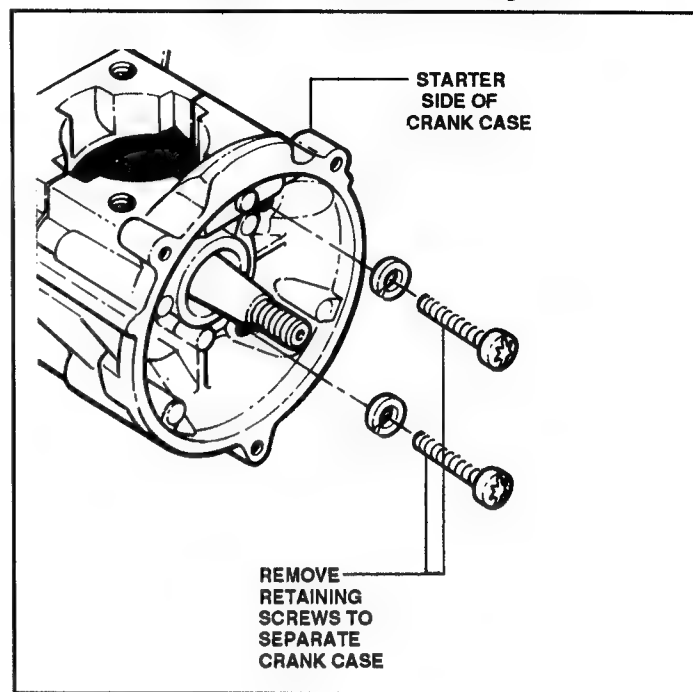

FIGURE 34
1. To separate the crankcase halves, remove the four retaining screws located on the starter side of the case. See Figure 34.